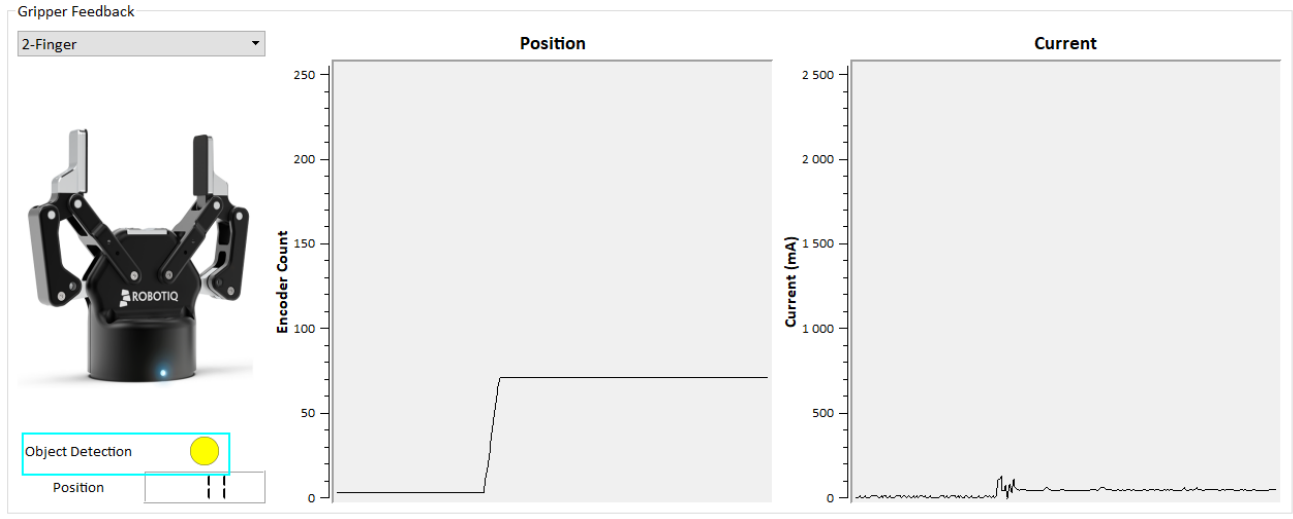

Figure 5.2.4.1 : Positive object detection is registered when the object detection dot turns yellow.
- **Object Detection:** If the Gripper detects contact with an object when closing, the "Object Detection" display turns yellow (Figure 5.2.4.1).
- **Position** (numeric): The digital display of "Position" shows the position of the fingers as designated on a scale of 0 to 255 (see Figure 5.2.4.2 and your Gripper Instruction Manual for details).